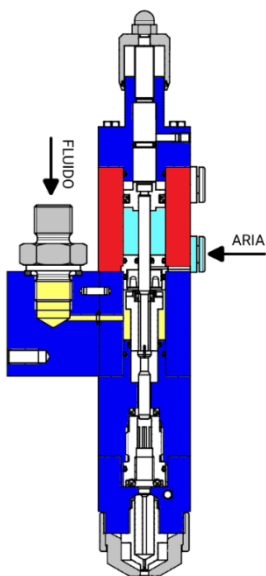

Figure 03 – Resting phase
- The fluid is ready to exit into its special chamber (Figure 03);
- As soon as the needle has gone back completely (and therefore also the piston), the arrival of the piston is objectified, and the nebulization air flow is interrupted (Figure 03).